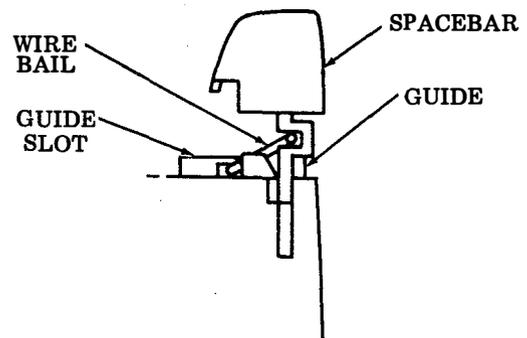

Fig. 40—Spacebar Assembly
- (d) To install spacebar, insert the wire bail in its guide slots and while engaging the spacebar with its guide and the wire bail, push down on the spacebar until the tab on the left side latches into the guide. (Fig. 40)